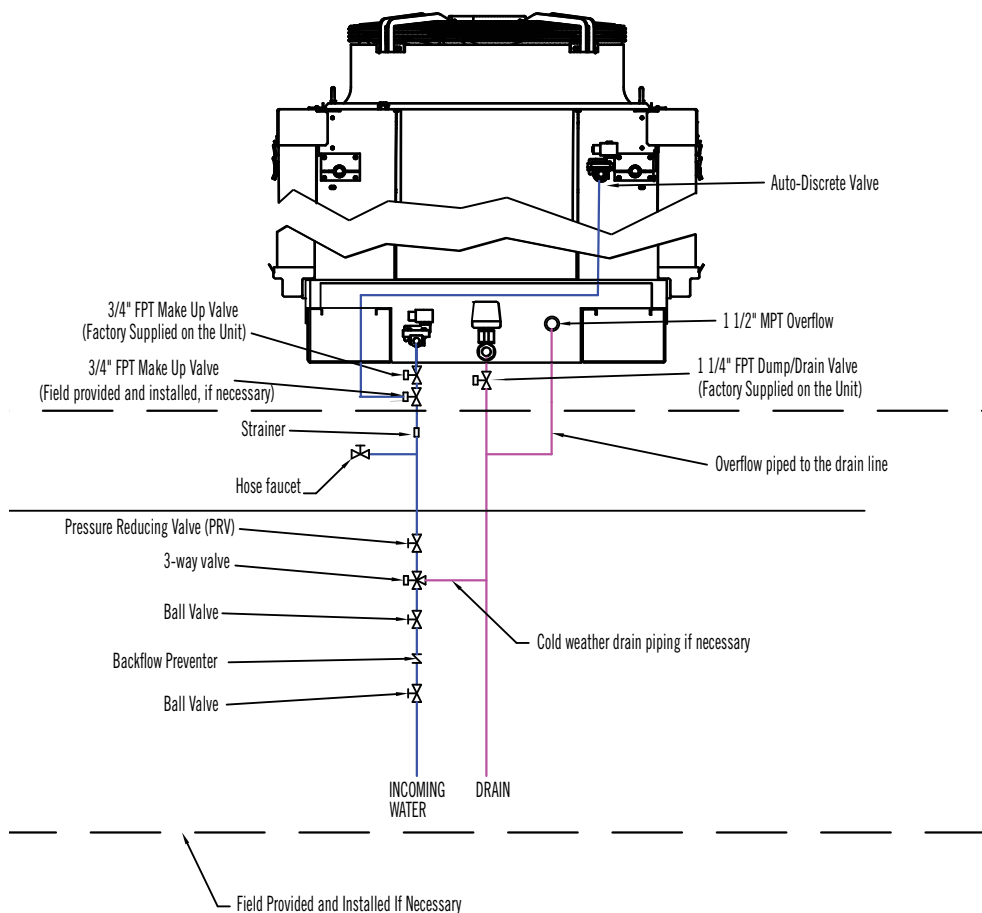

Figure 15a. Water Piping (TSDC Shown)
- On **page 15, Figures 15a and 14b** show the suggested water piping for one or multiple units. These figures show an optional hose faucet connection which can be used to connect a garden hose for cleaning the unit or for the discrete spray back up. They also show a 3-way valve which allows the water piping to be remotely drained when temperatures are below freezing. This valve is field provided, installed, and controlled.